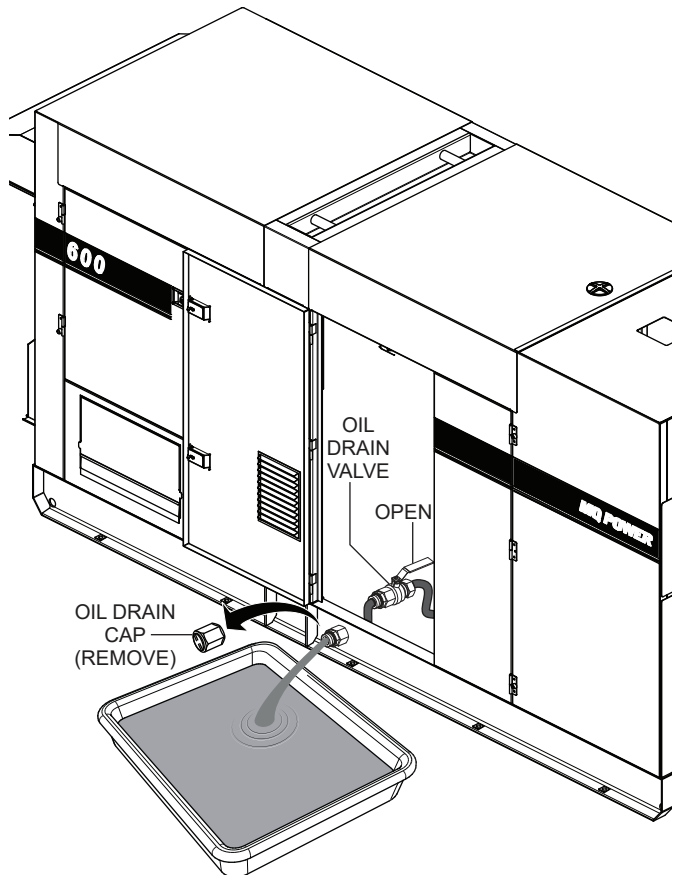

Figure 68. Draining The Engine Oil
3. Remove the **oil drain plug** (Figure 68).
4. Place the **oil drain valve** in the **OPEN** position and allow the oil to drain into a suitable container (Figure 68).